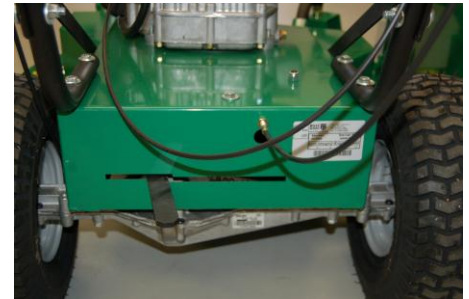

Fig. 16-7
**GROUND SPEED** can be varied by selecting a higher or lower gear using the gearshift lever on the frame (see figure 16-7). **Note:** Only change gear selection when unit is stopped. Under most conditions cutting should be done in second or third gear. The quality of the cut produced is directly related to the unit's ground speed during cutting. If the quality of the cut is not satisfactory (i.e. material left standing), you should shift into a lower gear during cutting.